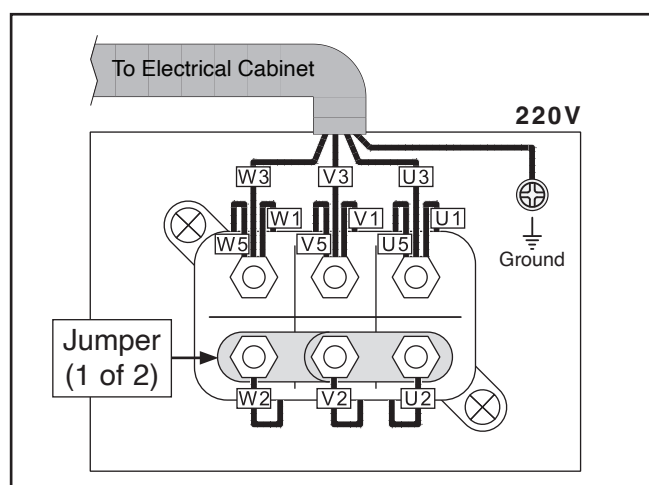

Figure 15. Feed motor wiring (220V).
14. Remove jumpers (see **Figure 15**).